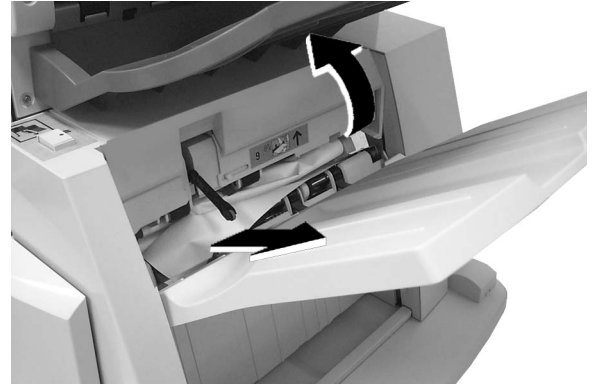

Figure 18: Lifting the Finisher Exit Cover and removing paper from Area 9
- 1** Lift and hold the Finisher Exit Cover (Area 9), located above the Finisher Output Tray (Figure 18).
- 2** Remove the jammed sheet (Figure 18).